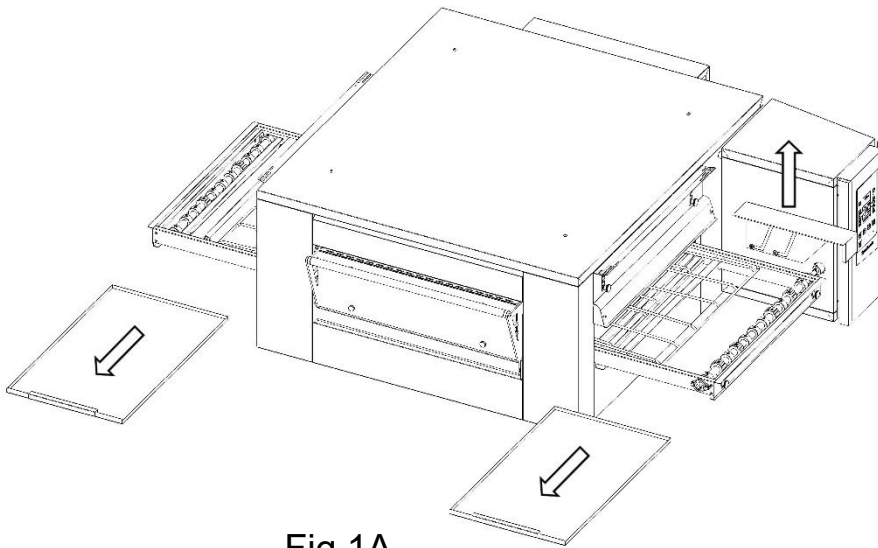

Fig.1A
2. Remove the drawers at the entrance and exit of the wire mesh conveyor belt (see Fig.1A paragraph 8.2.1).
3. Remove the casing covering the conveyor belt transmission joint freeing it from its attachment with an upward movement (see Fig.1A paragraph 8.2.1).
2. Remove the drawers at the entrance and exit of the wire mesh conveyor belt (Fig.1A).
3. Remove the casing joint moving it upwards (Fig.1A).